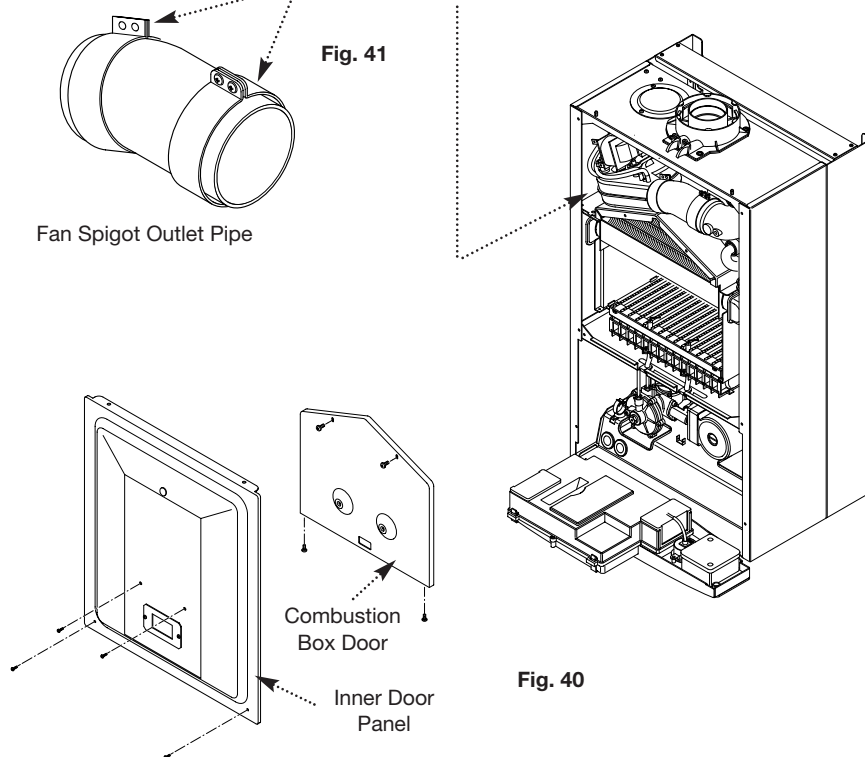

Fig. 40
6. Remove the screws securing the inner door panel. Lift the panel slightly to disengage it from the studs on top of the case (Fig. 40).
10. Remove the four screws securing the combustion box door and remove the door (Fig. 40).